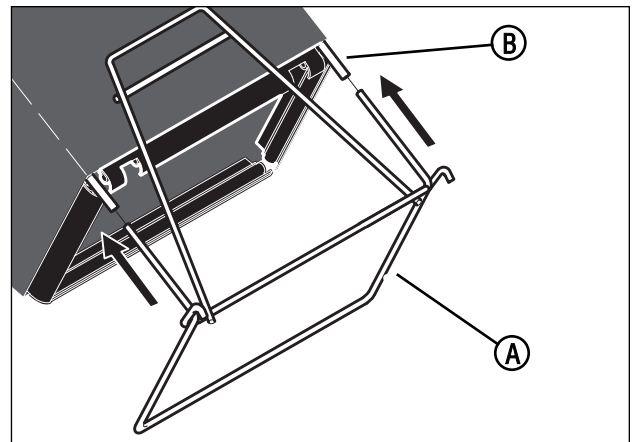

Figure 7: Installing the frame assembly
1. Slide the frame assembly **(A, Figure 7)** into the ends of the support tube **(B)**. Make sure the frame assembly is fully inserted into the support tube.